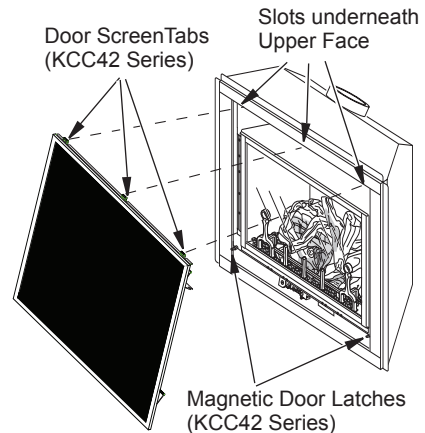

Figure 37 - Removing/Replacing Screen Door Assembly (KCC42 Series)
8. Replace screen door assembly, see removing screen door assembly, (see Figure 37, page 24 for KCC42 series).